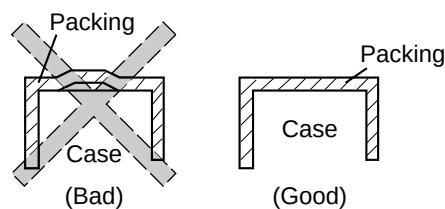

Figure 3
- ② Tighten screws on the fixing frame or fixtures so that no gaps are given between the front of controller and packing and between panels. Check that there are no deformation of packing as shown in Figure 3.
- ② Tighten screws on the fixing frame or fixtures so that no gaps are given between the front of controller and packing and between panels. Check that there are no deviation and deformation of packing as shown in Fig.3.